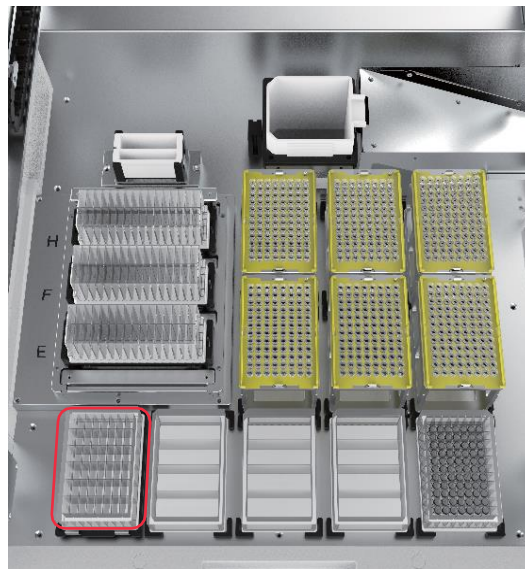

Figure 1. Location of bacterial pellets
4. **Loading:** After centrifugation, place the 48-deep well plate in the designated area (Figure 1) and proceed to the next step (5.2).
6. **Loading:** After centrifugation, place the 48-deep well plate in the designated area (Figure 1) and proceed to the next step (5.2).